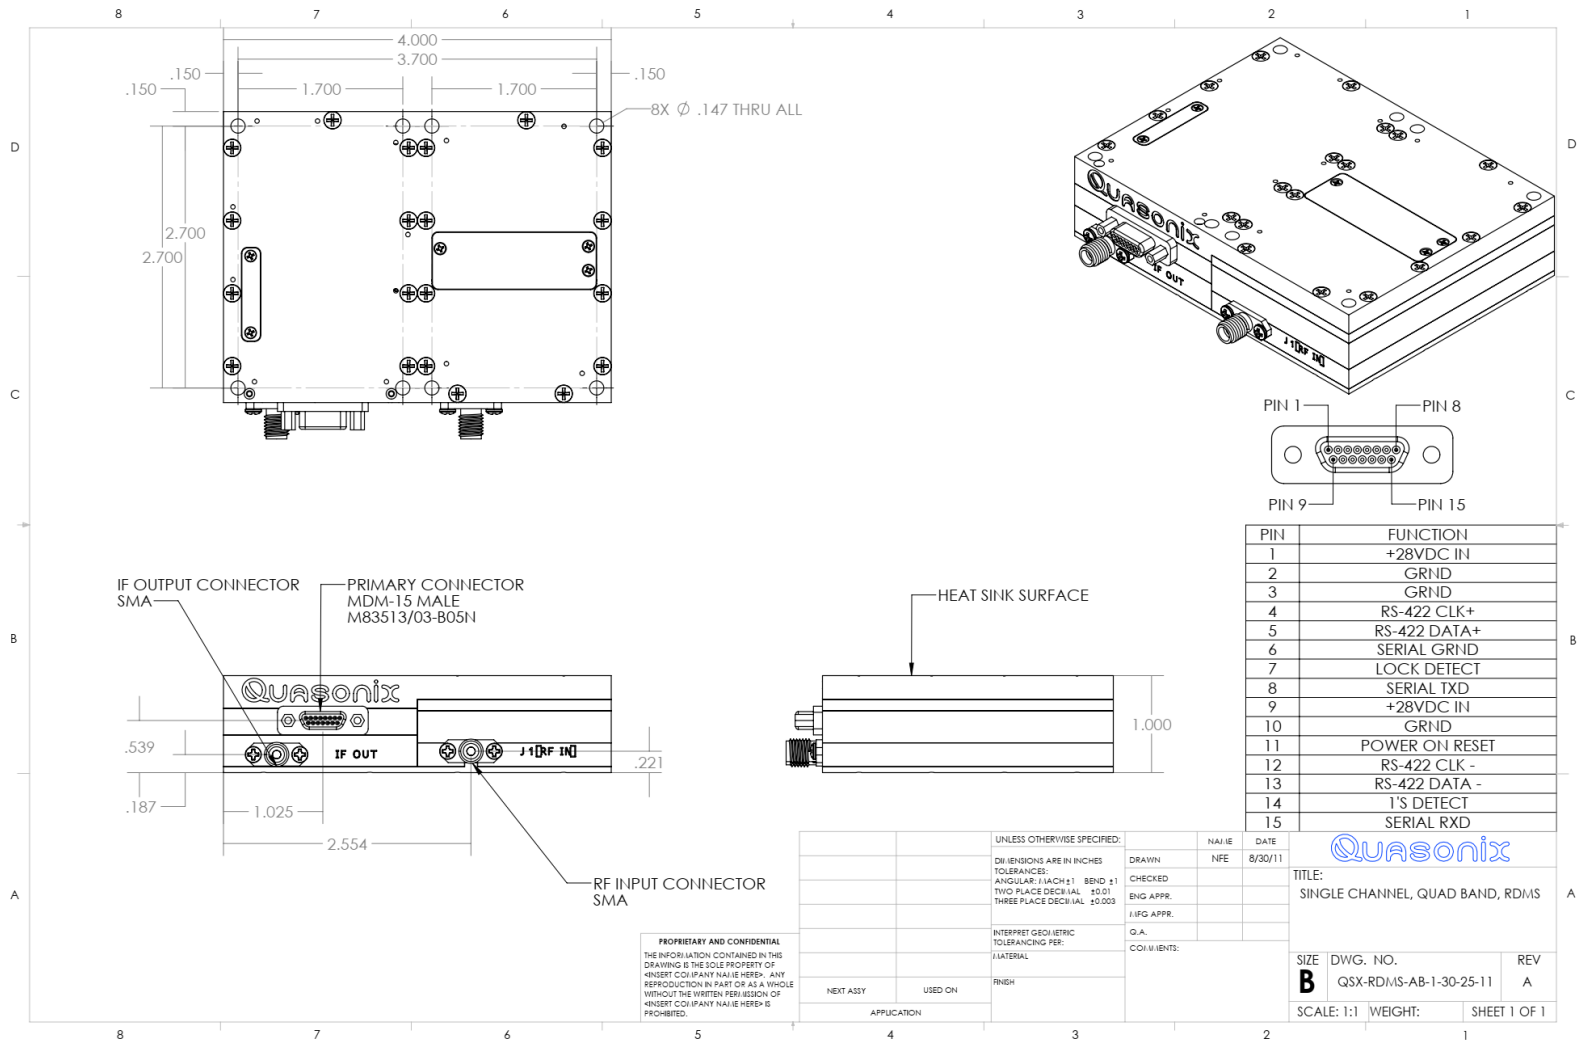

Figure 2: RDMS™ in 4.00" x 3.00" x 1.00" Compact Housing
The Compact RDMS™ is designed to be mounted by eight (8) 6-32 screws through the holes along the front and back edges, as depicted in Figure 2 on the following page.